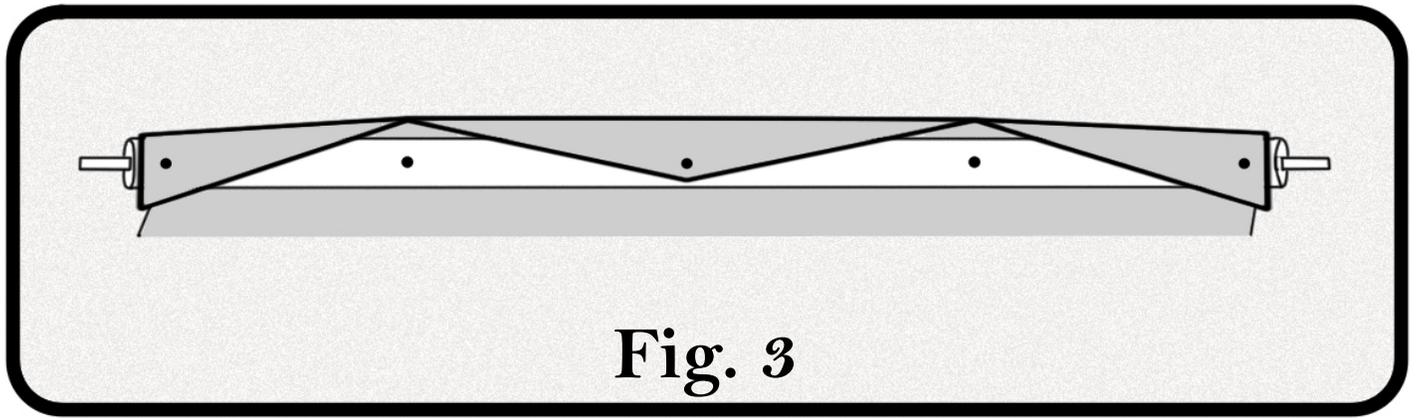

Fig. 3
Step 5: Lift the fabric up in the middle of the roller, forming an upside down “V”, as in Fig. 2, above. This will allow you to locate the center point of the fabric. Pull the center of the fabric about one inch beyond the pinning hole and use a 1/2 inch screw to pin the center point of the fabric to the center screw hole in the tube. (Fig. 3, following page)
Step 6: Move to one side to locate the screw hole that is spaced between the center hole and the end hole. Lift the fabric again into an upside-down “V”. (**Fig. 3, above**) Identify the center point and fold any excess fabric to create a pleat. Pin the pleat to the appropriate screw hole. Repeat this step at the last remaining screw hole, located at the other side of the tube. **NOTE: Failure to follow these instructions may result in an uneven cover pinning. This can cause the cover to retract crookedly, a condition that can cause problems with the operation of the cover.**